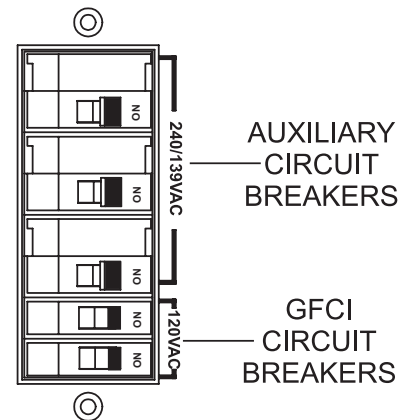

Figure 61. GFCI and Auxiliary Circuit Breakers (ON)
- Place the **GFCI and auxiliary circuit breakers** (Figure 61) in the **ON** position to send power to the GFCI (120V) and auxiliary (dual-voltage) receptacles.